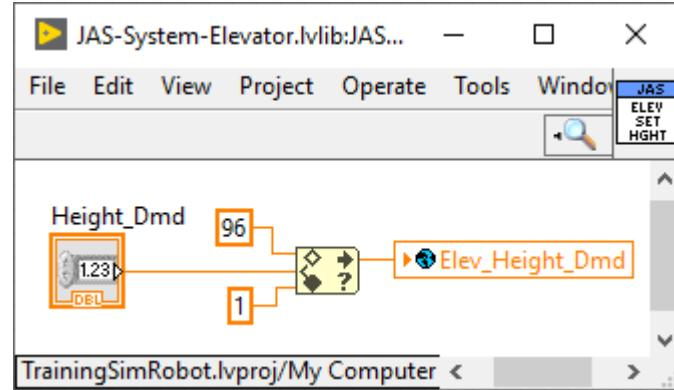

FIGURE 9.4 Sample numeric “set” subVI ensuring the value is within limits..
- For numeric “set” subVI check the input value to make certain it is within an acceptable range. The value could either be coerced, limited to be within range, before writing to the global variable, or ignored and not written. Fig. 9.4 shows an example of this.